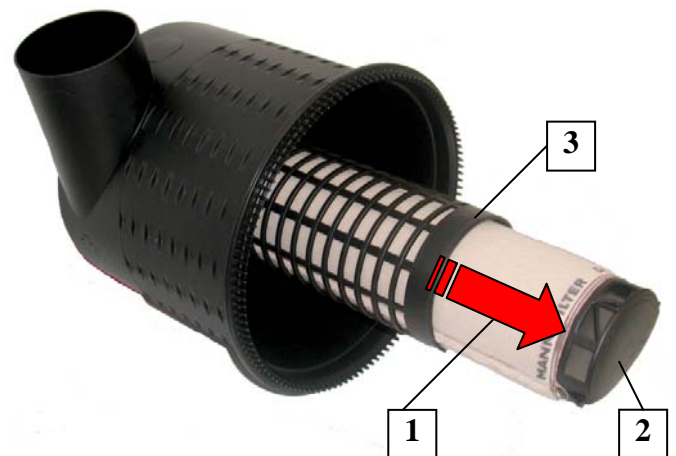

Fig. 10 Removing the secondary element (Model A)
- Take hold of the secondary element (1) by the grip (2) and pull out of the inner support tube (3) (refer to Fig. 10).